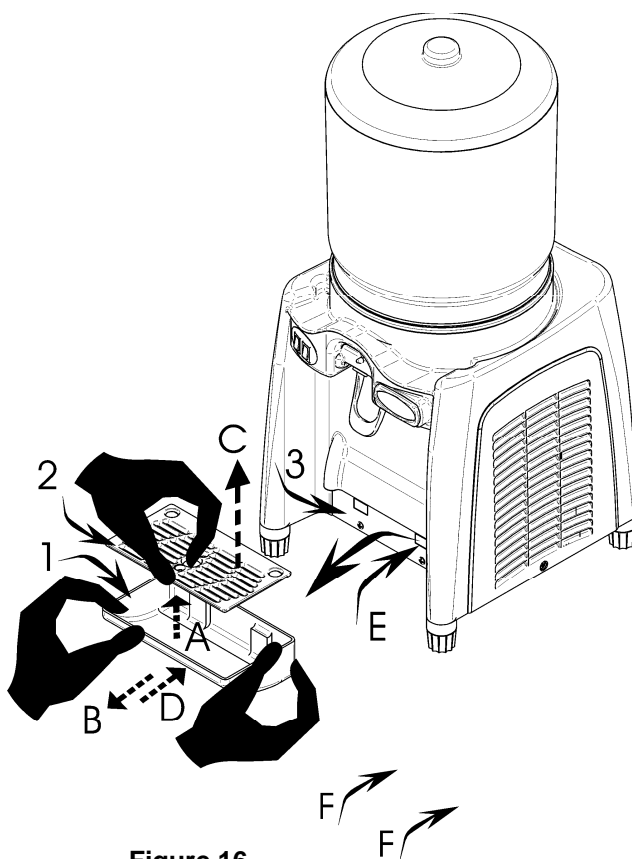

Figure 16
15°.-Complete the cleaning operation by emptying the drip tray (1) (see Fig.16), To remove, pulls the tray gently up (A) and towards you (B). Take out the perforated drip rack (2) as shown by the arrow (C). Pour off the contents of the drip tray (1) and put the rack (2) back (D). Bring the tray (E) up to the front panel and slot it in place (F) over the screws (3).